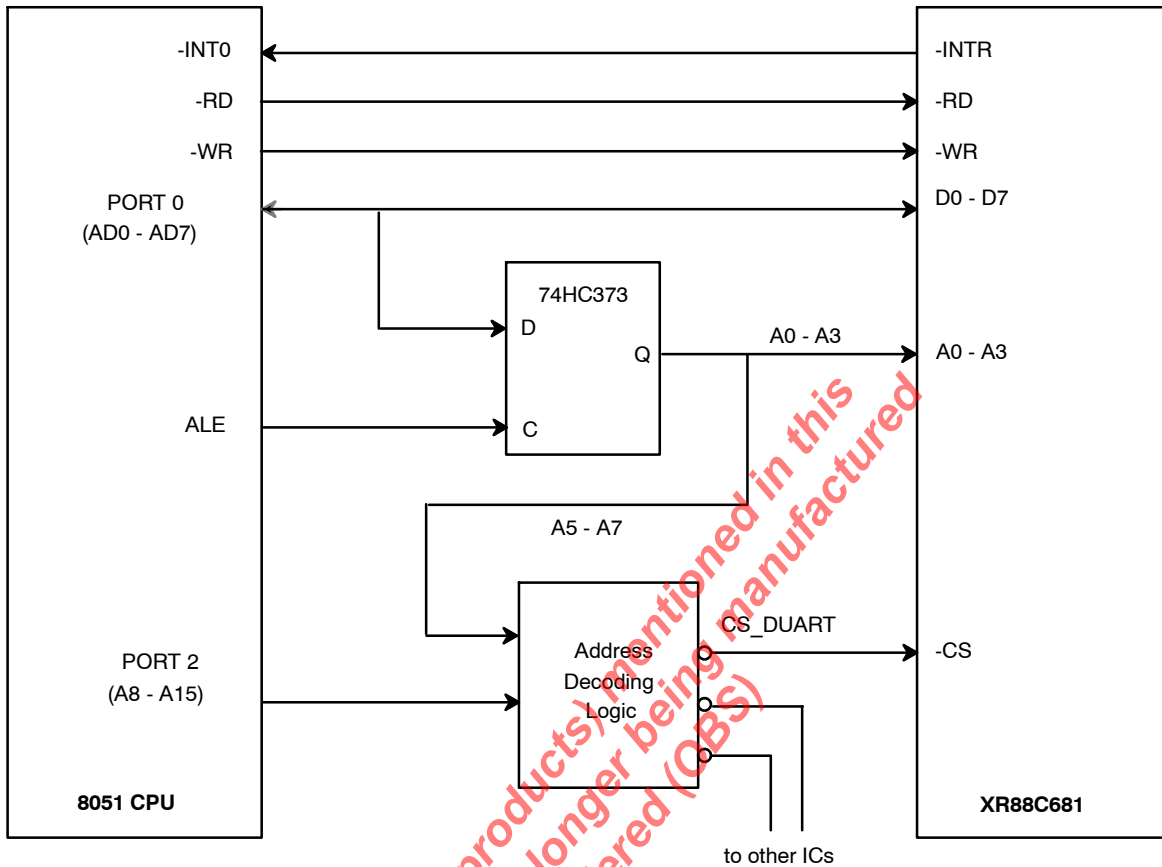

Figure 5. An Approach to Interfacing the XR88C681 DUART to the 8051 Microcontroller
*Figure 5* presents a schematic illustrating how the XR88C681 DUART can be interfaced to the 8051 IC.
The circuitry presented *Figure 5* would function as follows during a DUART requested interrupt. The DUART device requests an interrupt from the CPU by asserting its active low -INTR output pin. This will cause the -INT0 input pin to the CPU to go low. When this happens the 8051 CPU will finish executing its current instruction, and will then branch program control to the DUART interrupt service routine. In the case of *Figure 5*, since the DUART's -INTR pin is tied to the -INT0 pin of the  $\mu$ C, then the beginning of the interrupt service routine will be located in 0003H in code memory. The 8051 CPU does not issue an Interrupt Acknowledge signal back to the DUART. It will just begin processing through the DUART's interrupt service routine. Once the CPU has eliminated the cause(s) of the